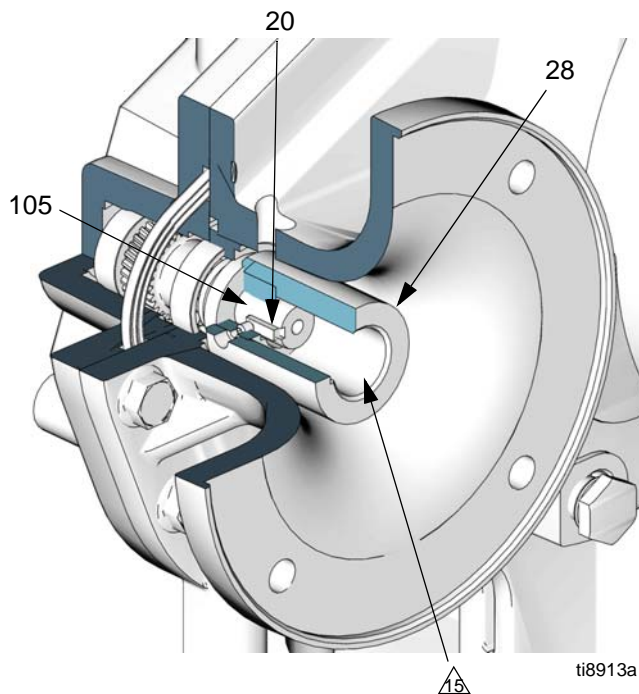

FIG. 10. Motor Coupler Installation
2. See FIG. 10. Assemble the key (20) in the input shaft (105) keyway. Assemble the two setscrews (31) in the coupler (28), ensuring that they do not encroach on the keyway or the input shaft bore of the coupler.